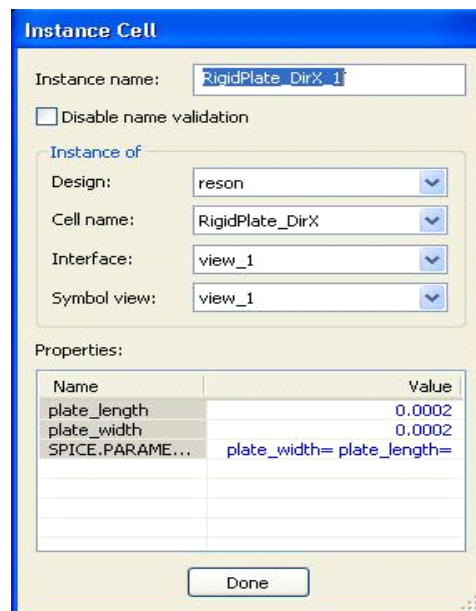

Figure 2: Instance Cell dialog
- ☑ Select **Cell > Instance** and the **Instance Cell** dialog opens as shown in Figure 2.